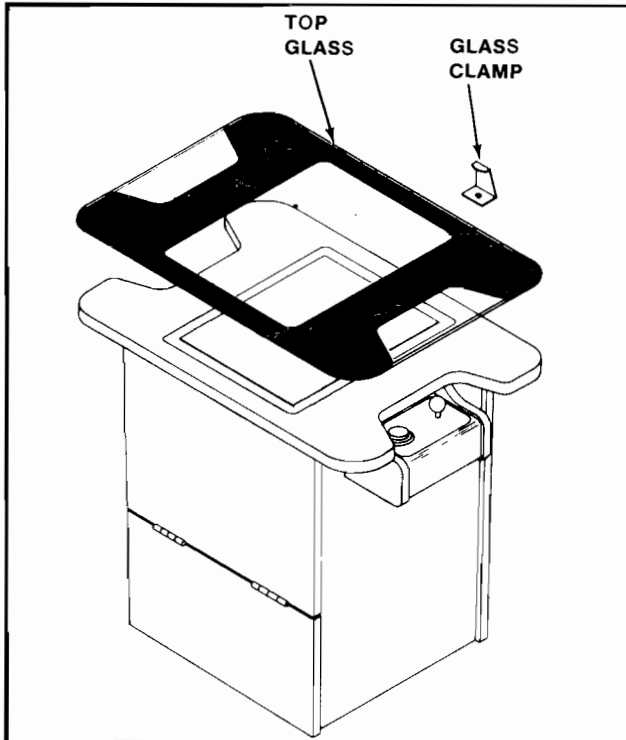

Figure 4-6 Removing Top Glass — Cocktail
2. COCKTAIL TABLE MODEL: See Figure 4-6.